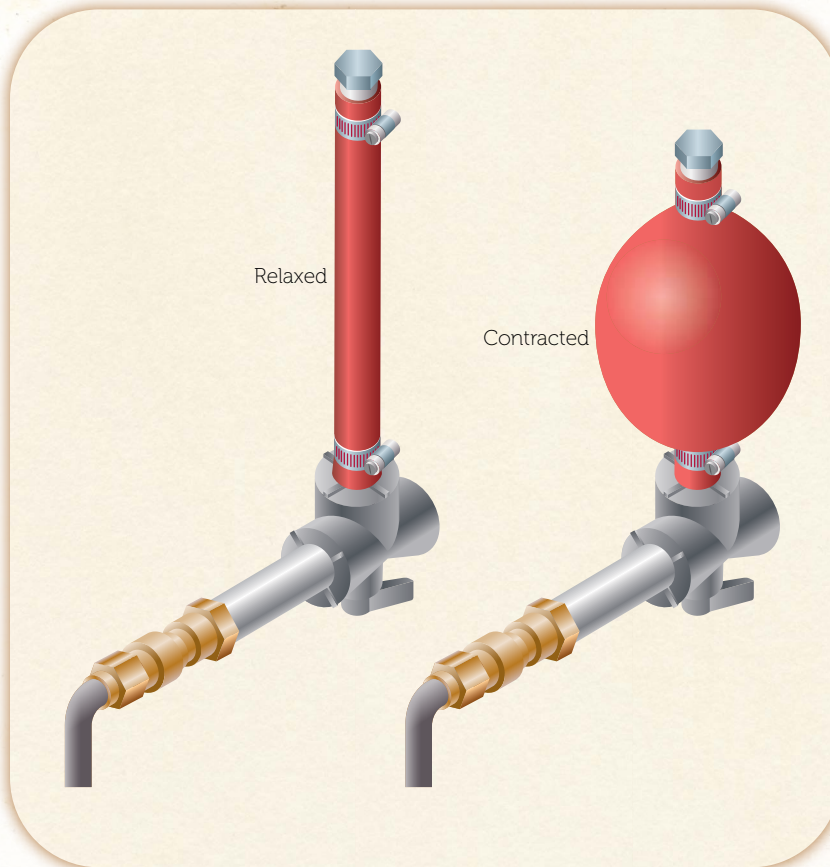

Figure 9.6: What happens when the silicone tube contracts
3. Move the three-way valve handle so the air muscle fills with air. As it fills, the silicone tube expands, but it is constrained by the mesh sleeve, which causes the air muscle to contract (see Figure 9.6).